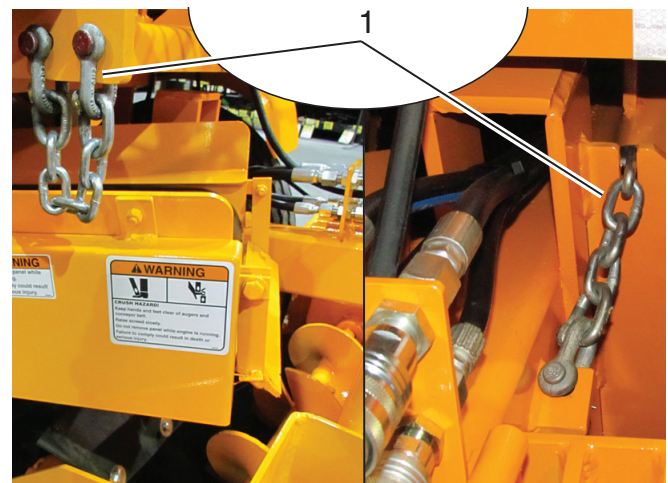

Figure 4-16. Shoulder Safety Chain
2. Raise grinder, screed, and retract screed extension. Secure screed with the two safety chains and place variable volume drive lever in neutral. See **Figure 4-16**.